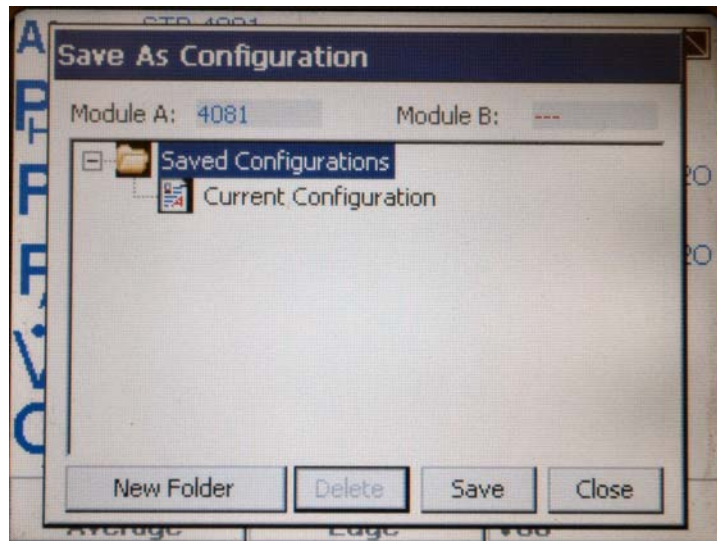

Figure 8-6: Save As Configuration - New Folder Button (Certifier FA Plus)
2. To create a Respironics folder, touch **Save As**, then touch **New Folder** (Figure 8-6). If a Respironics folder already exists go to step 4.